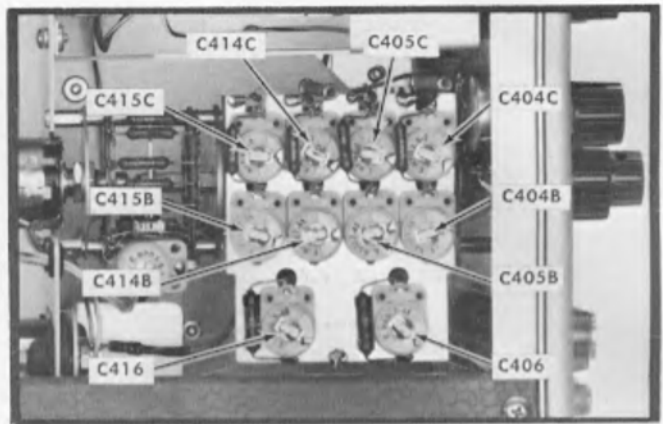

Fig. 6-18. Attenuator compensation adjustment locations, Vertical Amplifier (left side).
- g. Adjust C416 for optimum square-wave with flat top. Fig. 6-18.
x. Repeat the procedure outlined in steps (d) through (u), referring to Table 6-3 for control setting adjustments required, and waveform tolerances. The VERTICAL -INPUT attenuator adjustment locations are shown in Fig. 6-18.